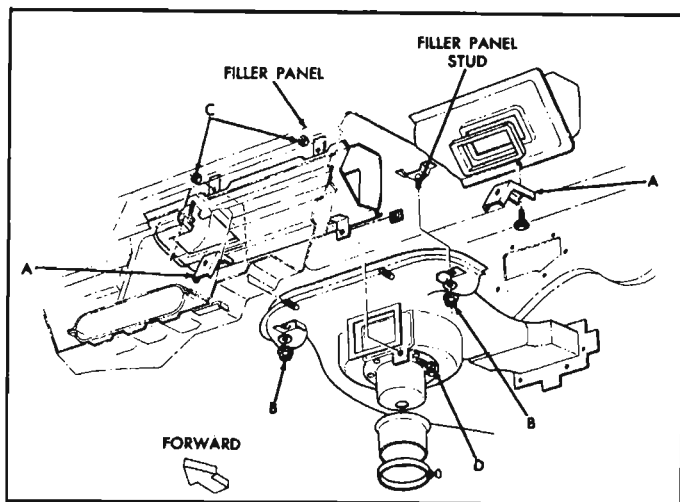
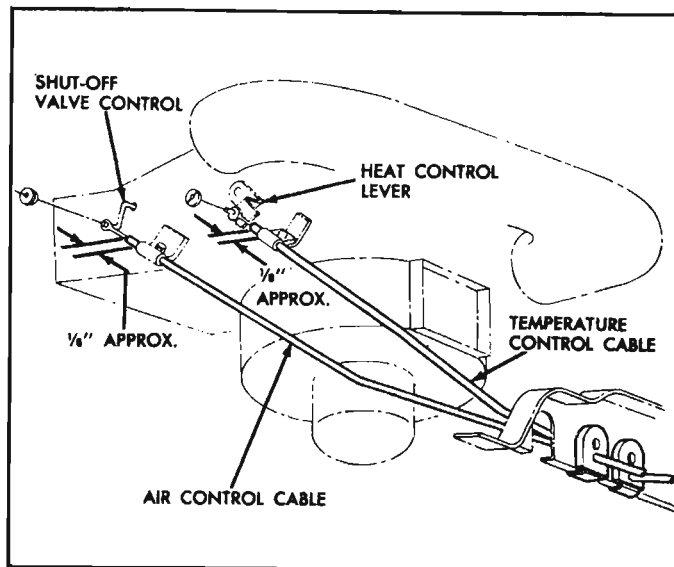

Fig. 11-37—Housing, Cross Air Duct and Blower Removal
Fig. 11-39—Control Cable Attachment
4. Disconnect the blower wire and control cables from heater housing (see fig. 11-39).
5. Remove two angle brackets (A, fig. 11-37) from the cross air duct and underbody.
6. Remove nuts (B, fig. 11-37) from studs on package shelf, one on either side of the blower motor.
2. Loosely assemble nuts (B, fig. 11-37) on the studs on the package shelf to support the heater assembly.
3. Reinstall angle brackets (A, fig. 11-37) to the underbody and the cross air duct.
4. Tighten nuts (A) which were installed in step one.
6. Install control cables and check their operation. With the cables properly adjusted, see Figure 11-39, a "cushion" will be felt at the end of the travel
1. With the heater housing removed from the vehicle, remove the two stud nuts (C, fig. 11-37) and single screw (D, fig. 11-37) attaching the cross air duct to the air inlet assembly.
The control cables adjustment procedures are the same as used on other Chevrolet Heaters as well as Air Conditioning Systems and air vent controls, and it is felt that servicemen are sufficiently versed in the adjustment that it will not be covered here. Figure 11-39 illustrates cable adjustments dimensions.
7. Replace the control cables as shown in Figure 11-39 and plug in the blower wiring connector.